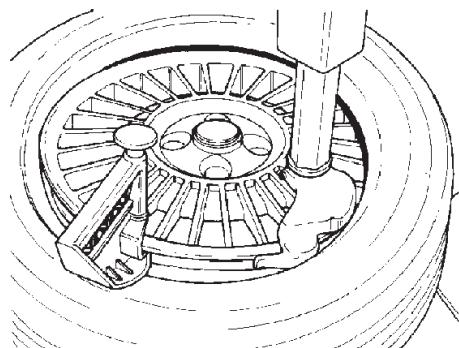

Fig.4.2-4
C. Mount the upper bead following the directions in section B. With low profile tires the bead holding clamp (option 66735 Fig.4.2-4) can help to prevent the top bead from prematurely seating during the mounting cycle.